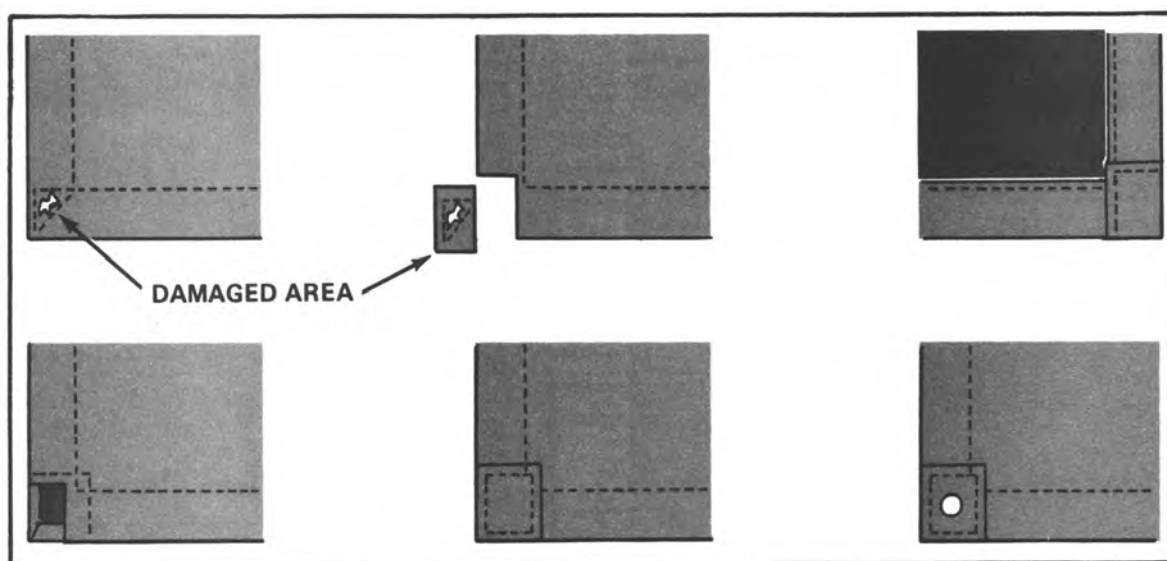

Figure 9-16. Reinforced grommet patch
(2) Reinforced Grommet Patch. A reinforced grommet patch (Figure 9-16) is used to repair the damage when a grommet near a corner has been torn loose. The patch consists of two patches and a canvas reinforcement. The three layers of canvas give strength to the repair. To make a reinforced grommet patch--